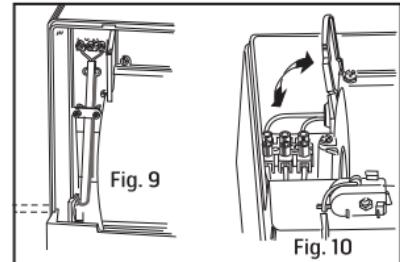
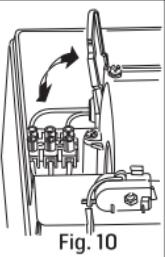

Fig. 9
Fig. 10
5. Electrical connection must be carried out by an authorised electrician in accordance with the connection form, Figs 3a / 3b. Connection should be made in the terminal block on the back panel of the fan, Fig. 10. The electricity cable should be fed in through the hole in the back, Fig. 9, or in from the side near the same hole where the plastic is thinner for making a hole.